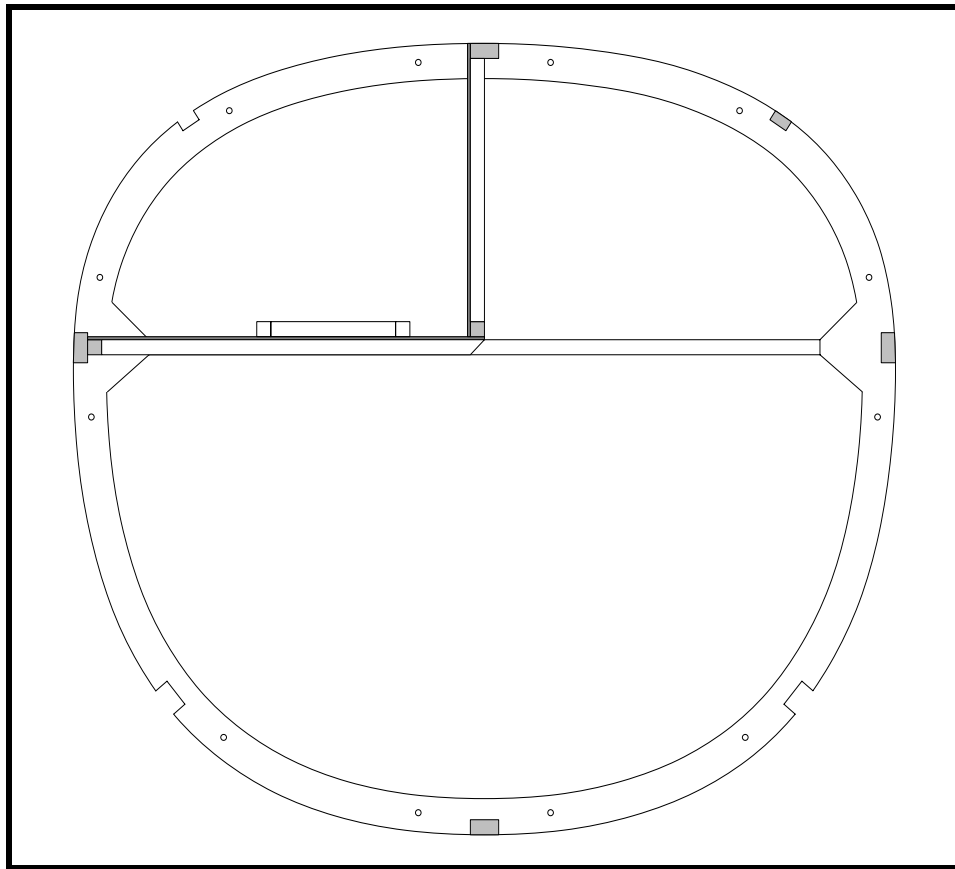

Figure 37
- ❑ Fit and install the 15x15 brace on the center wall of the battery box. See Figure 37.